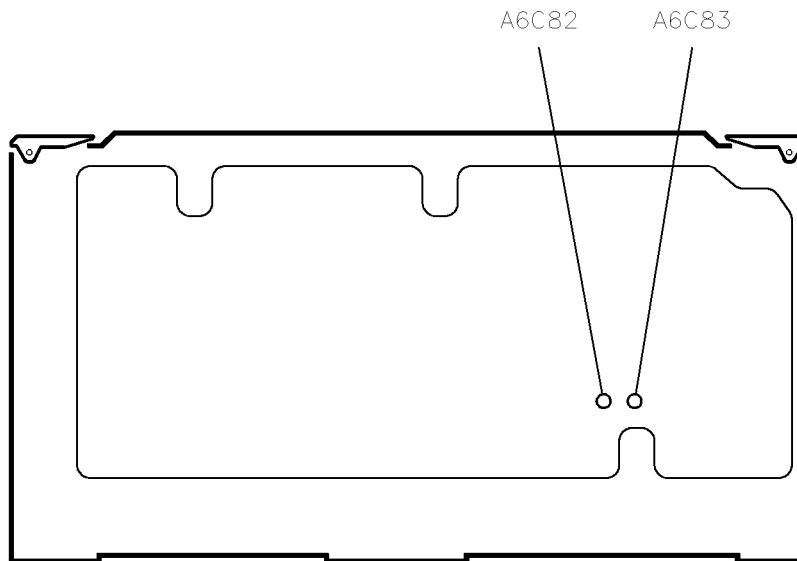

Figure 3-5. Sampler Match Adjustment Locations
9. Adjust A6C82 and A6C83 (Figure 3-5) for best overall sampler match.